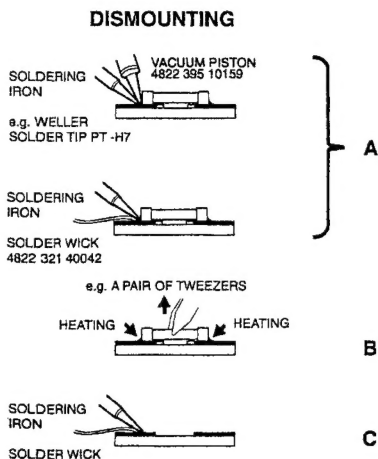

Fig.1
- While holding the SMD with a pair of tweezers, take it off gently using the soldering iron's heat applied to each terminal (see Fig. 1 B).